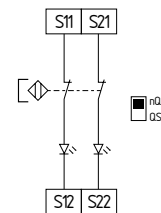

Fig. 13
**Dual-channel control of magnetic safety switches according to IEC 60947-5-3 (see Fig. 13)**